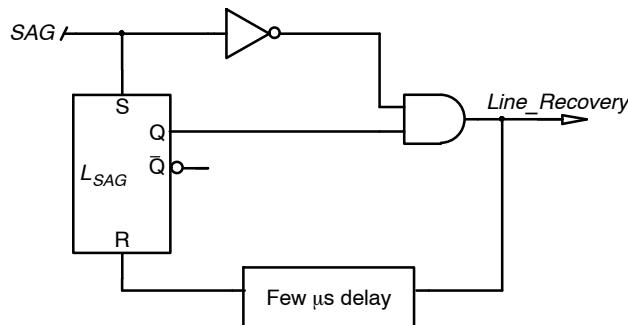

Figure 20. “Line_Recovery” Signal
- When the soft-stop sequence ends, the PFC stops operating until the T_{BUV} delay has elapsed (515 ms typically). However, if the BUV protection trips during a line sag condition, the T_{BUV} delay is bypassed and operation immediately resumes when the line recovers. The wakeup information is provided by signal “*Line_Recovery*” generated by the line-sag block (see Figure 20). This enables a rapid operation recovery when the line fault is over.
When a line-sag condition is detected, the NCP1618 starts a soft-stop sequence to gradually discharge $V_{CONTROL}$ down-to-zero and hence, to smoothly stop operation. It also disables the CCM mode to reduce more rapidly the power delivery during the line-sag period. When the line recovers, it is required to restart the operation as soon as possible and in a clean manner. Signal “Line_Recovery” of Figure 20 provides the wakeup information.